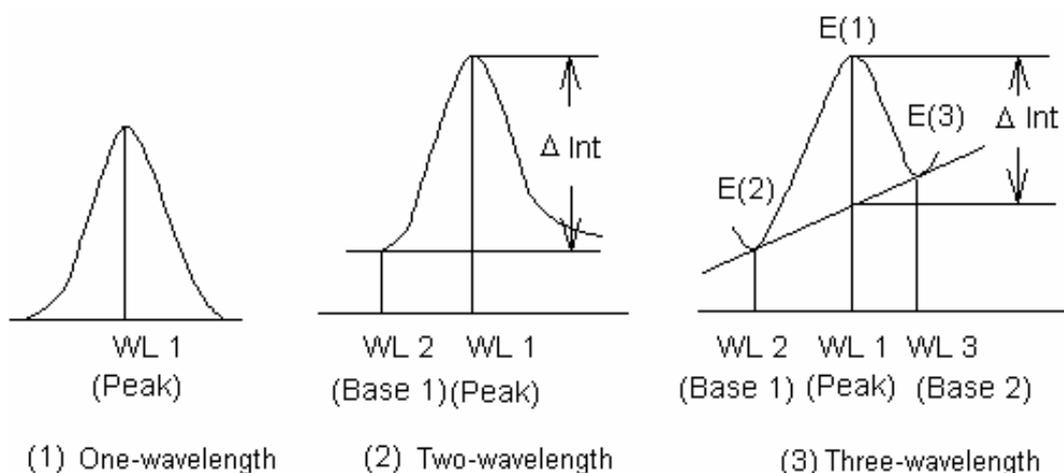

Fig. 3.1 Quantitative analysis methods
One, two or three wavelengths can be selected depending the condition of the sample. Figure 3.1 illustrates the three possible methods of quantitative analysis.
- (1) One-wavelength quantitative analysis (Fig. 3.1 (1))
- (2) Two-wavelength quantitative analysis (Fig. 3.1 (2))
- (3) Three-wavelength quantitative analysis (Fig. 3.1 (3))